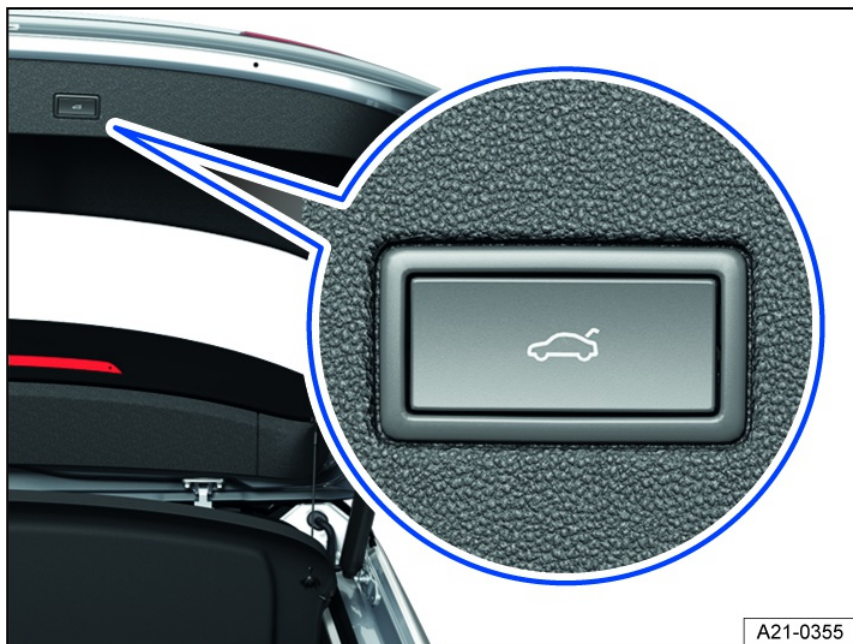

Fig. 67 In the open trunk lid: Button for power closing the trunk lid.
1. Press the button in the trunk lid when it is open *fig. 67*.
Or: press the button on the trunk lid while the lid is opening or closing *fig. 67*.
2. Press and hold the  button in the trunk lid until the emergency flashers start flashing *fig. 67*.
2. Press and hold the  *fig. 67* button in the trunk lid until the emergency flashers start flashing.